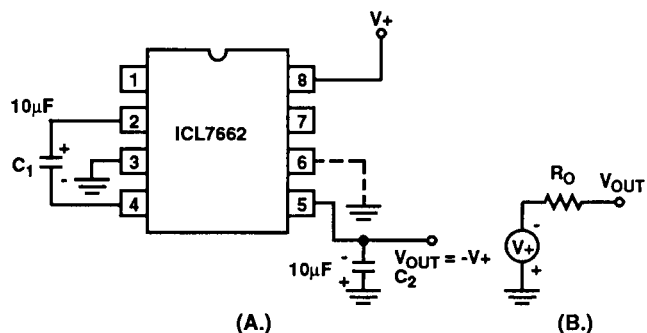

FIGURE 3. SIMPLE NEGATIVE CONVERTER AND ITS OUTPUT EQUIVALENT
The majority of applications will undoubtedly utilize the ICL7662 for generation of negative supply voltages. Figure 3 shows typical connections to provide a negative supply where a positive supply of +4.5V to 20.0V is available. Keep in mind that pin 6 (LV) is tied to the supply negative (GND) for supply voltages below 10V.
Figure 10 combines the functions shown in Figure 3 and Figure 9 to provide negative voltage conversion and positive voltage doubling simultaneously. This approach would be, for example, suitable for generating +9V and -5V from an existing +5V supply. In this instance capacitors C1 and C3 perform the pump and reservoir functions respectively for the generation of the negative voltage, while capacitors C2 and C4 are pump and reservoir respectively for the doubled positive voltage. There is a penalty in this configuration which combines both functions, however, in that the source impedances of the generated supplies will be somewhat higher due to the finite impedance of the common charge pump driver at pin 2 of the device.